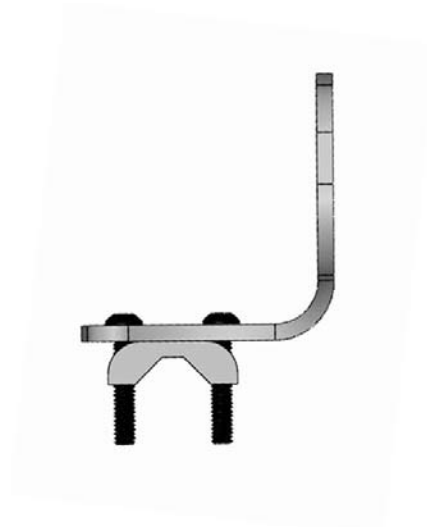

Fig. 2
Insert (2) 1/4-20 x 1.25 in. Button Head Cap Screws and Washers through the single slot of of the Mounting Bracket and into the Through-hole Clamp Bracket. (**Fig. 2**)